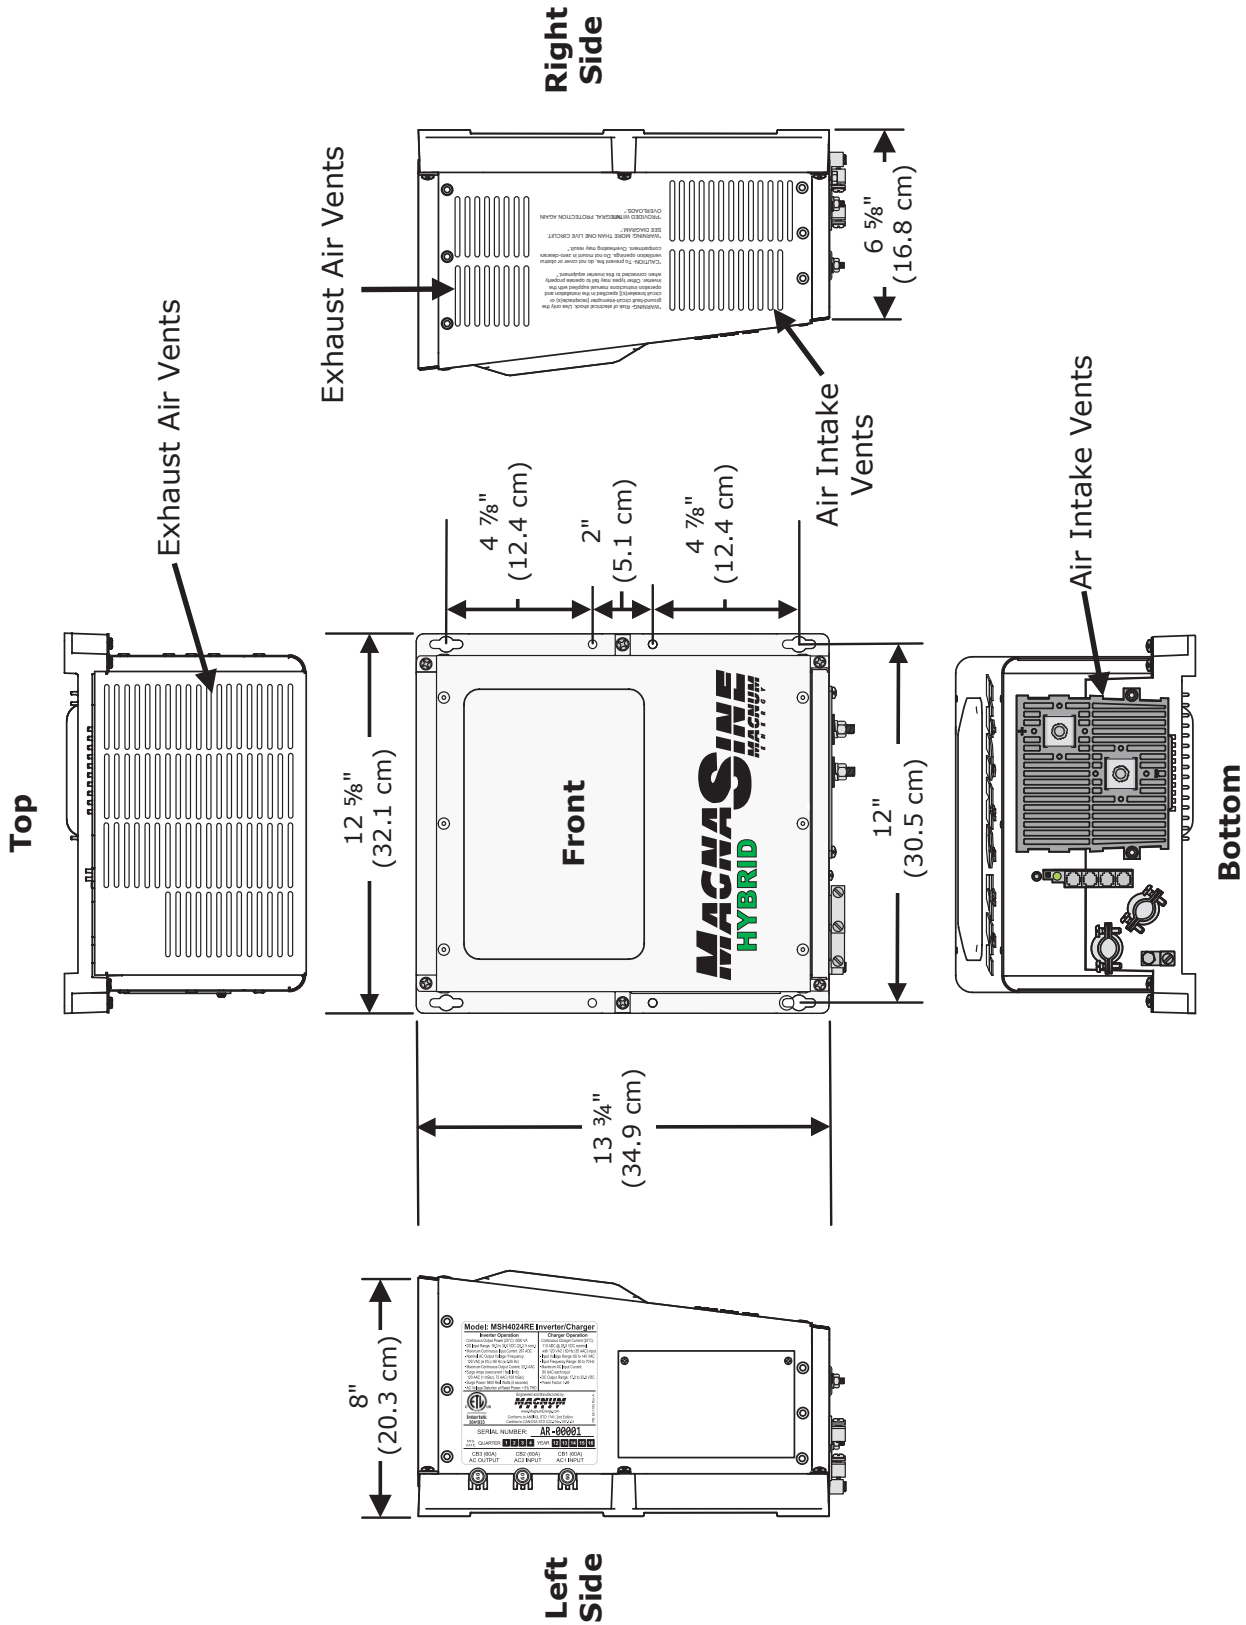

Figure 2-3, MSH4024RE Dimensions and Side Reference
- 9 Intake Air Vents** – ventilation openings to pull in air to help keep the inverter cool for peak performance. The intake air vents are located on the front side and at the front on the right side; see Figure 2-3 for the locations of the air vents.
- 13 Exhaust Air Vents** – ventilation openings that allow heated air to be removed by the internal cooling fan. The exhaust air vents are located on the back side and at the rear on the right side; see Figure 2-3 for the location of the air vents.
Accessible – Do not block access to the inverter’s remote control and accessory ports, as well as the inverter’s controls and status indicator. Allow enough room to access the AC and DC wiring terminals and connections, as they will need to be checked and tightened periodically. See Figure 2-3 for the MSH-RE Series inverter/charger’s dimensions.
After determining the mounting position, refer to the physical dimensions as shown in Figure 2-3, or use the base of the inverter as a template to mark your mounting screw locations. After marking the mounting screw locations, mount the unit with appropriate mounting hardware.